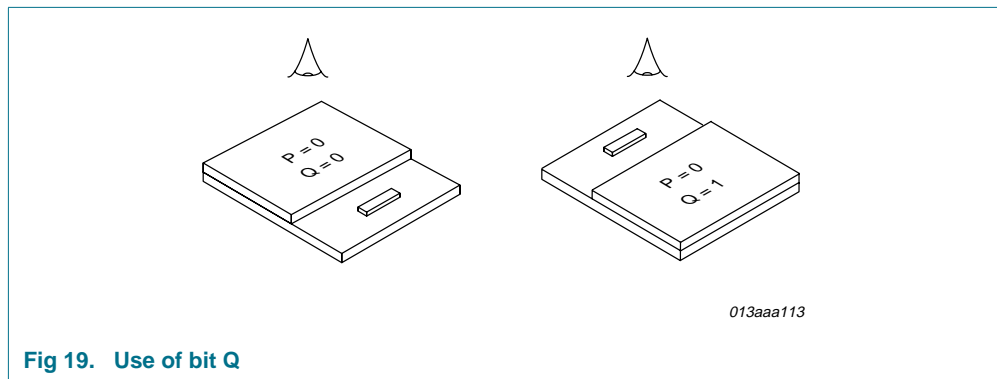

Fig 19. Use of bit Q
**Bit Q:** The Q bit flips the display top to bottom by mirroring the row data, as shown in Figure 19.